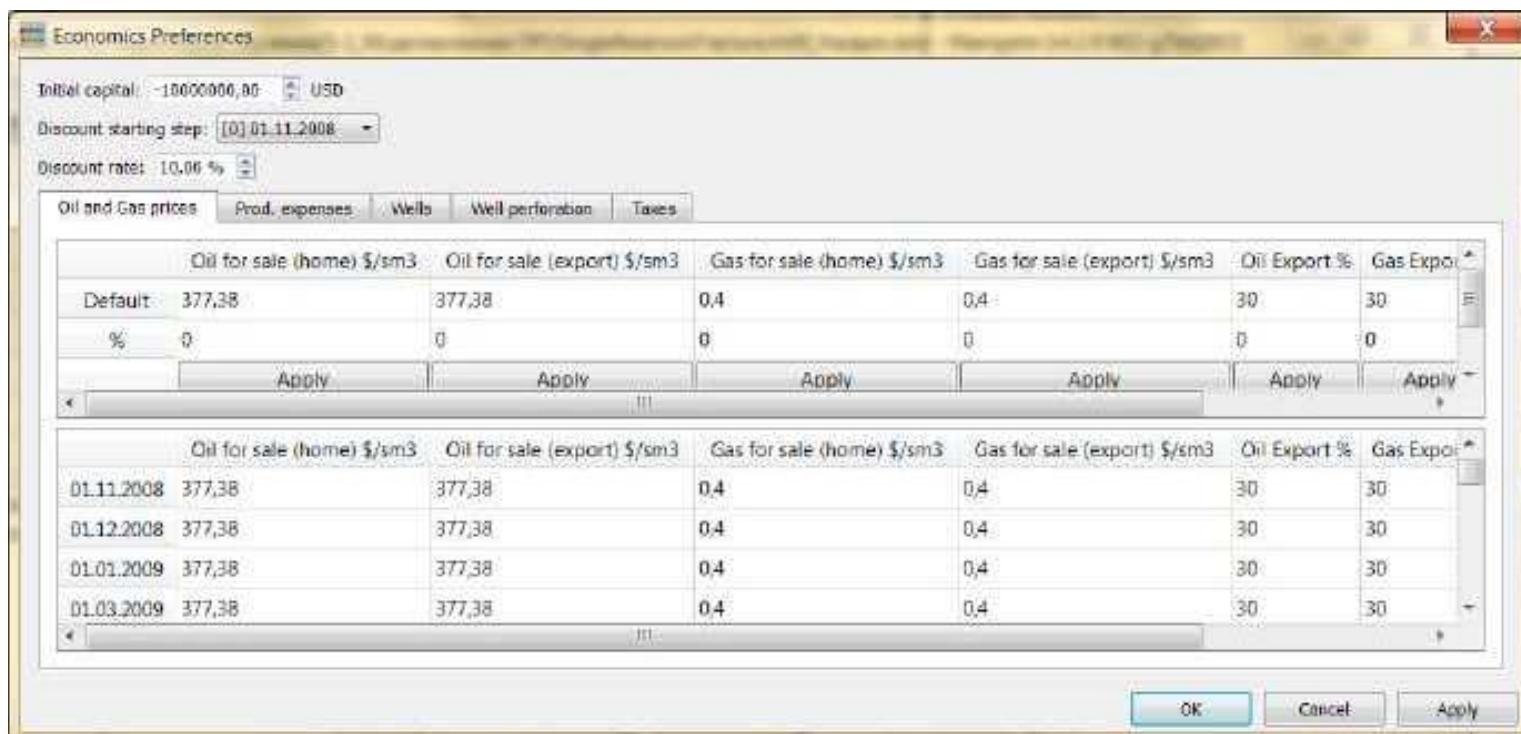

Figure 183. Preferences. Economics.
1. In the top panel: click **Document**, select **Economics Preferences** – figure 183.